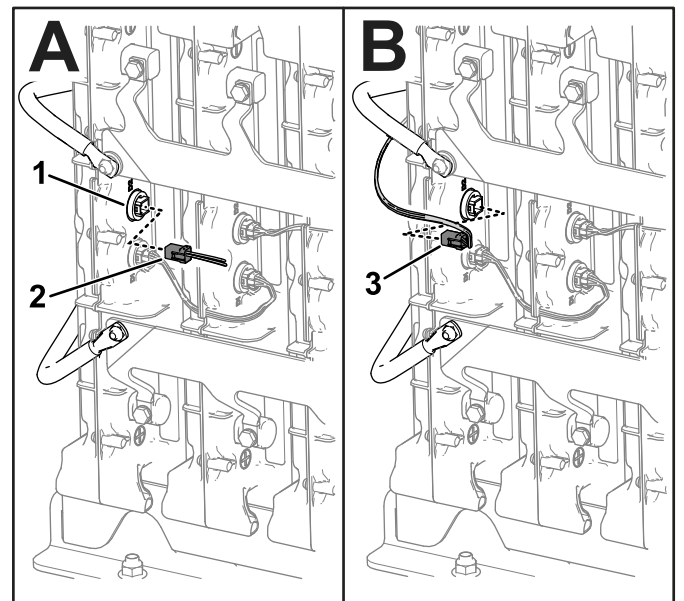

Figure 8
3. Remove the existing wire harness (CAN) from the D2 battery port (Figure 8). Retain the wire harness.
4. Install the remaining connector of the data-interface wire harness to the D2 battery port (Figure 8).